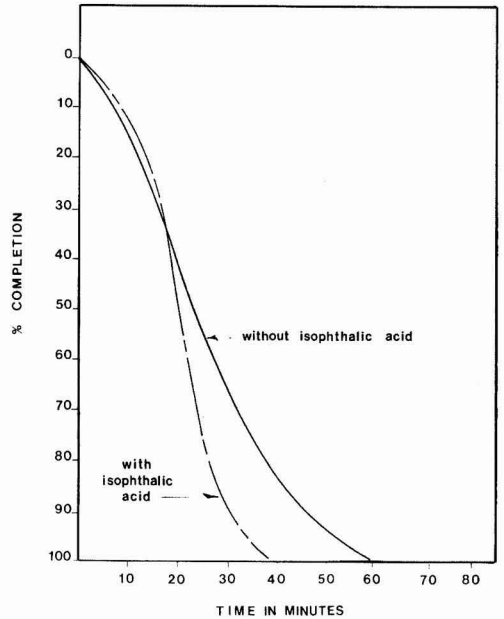

Figure 6—Kinetics of IPDI/NPG reaction catalyzed with 0.03% T-9 at 100°C [50% solids in M-Pyrol]
(3) Isophthalic acid did not further accelerate the reaction of NPG with IPDI in the presence of 0.3% SnOct. At one tenth the level of SnOct, a rate enhancement was achieved in the presence of a catalytic amount of carboxylic acid. (Figure 6).
(4) The TDI/NPG reaction rate was extremely rapid.
(5) TDI and IPA reacted at a moderate rate which was not accelerated by SnOct.